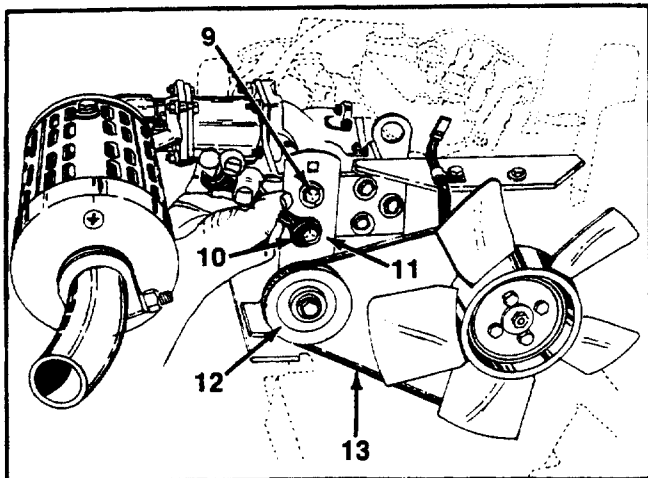

FIGURE 7.
8. Loosen the adjusting lock bolt and pivot bolt at the idler bracket. See figure 7.